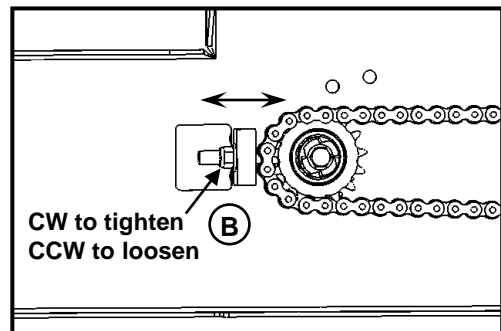

Figure 2-6, Drawbar Chain Adjustment
3. If adjustment is necessary, loosen the sprocket's nut (A) at the front of the chain and adjust as necessary using the front end adjustment nut (B) (see Figure 2-6).